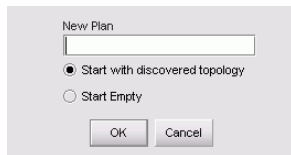

Figure 85 New Plan dialog box
1. Select **SAN > New Plan** (or press **Ctrl-N**) from the Planning window menu. The New Plan dialog box is displayed (Figure 85).